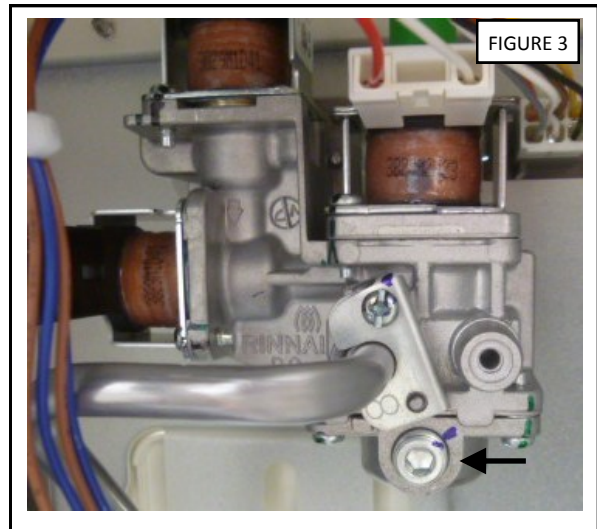

FIGURE 3
9. Remove the test port plug on the gas control valve and connect a manometer using a 1/8” test connection to adjust the pressure settings. (FIGURE 3)
18. Turn off gas supply. Remove manometer and reinstall test port plug. (FIGURE 3)